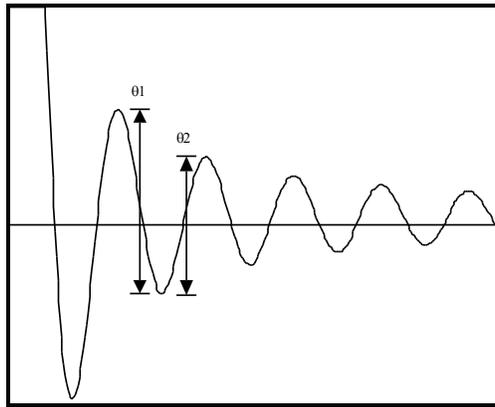

Figure 6: Damped System Response
2. **DAMPING:** Set the function generator to a square wave pulse (reduce the frequency to 5Hz or lower) and the oscilloscope to trigger from that square wave in order to measure the damping of the system. You are trying to simulate a single step function as input. The output should resemble Figure 6 (you will have to adjust the time scale of the o-scope to see the step response). Measure the amplitude of successive peaks and calculate the logarithmic decrement, Λ , given by the following formula: